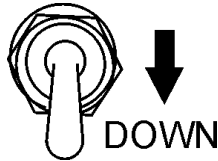

Figure 15. Idle Control Switch (Down)
8. **Place the *idle control switch*** (Figure 15) in the "**OFF**" (down) position. This will allow the engine run at speed about 3600 RPM's